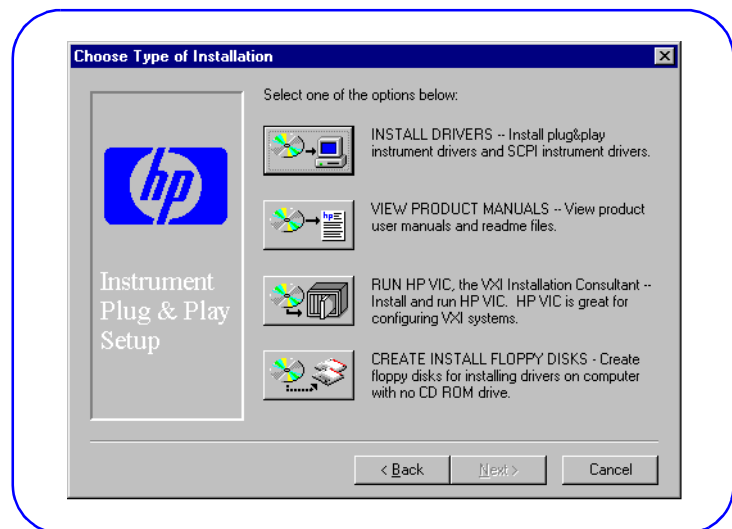

Figure 15. Choose Type of Installation Screen
- 4 When the main menu appears, click *Launch Installer or View Manuals*. Click *Next* on the next screen and *Yes* on the third screen to go to the **Choose Type of Installation** screen (see Figure 15).